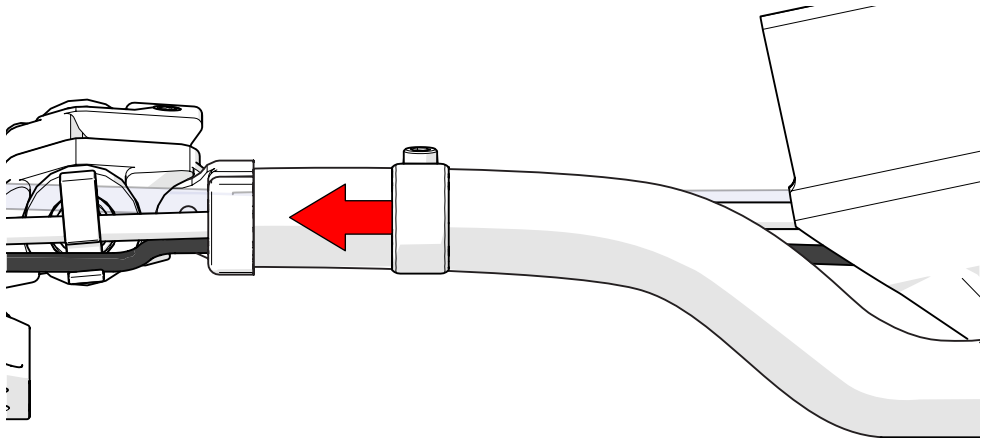

Fig. 65 - Place sleeve clamp around sleeving and sleeve clamp bracket
9. Slide the sleeve clamp over the sleeve clamp bracket and the protective sleeve (*Fig. 65*).